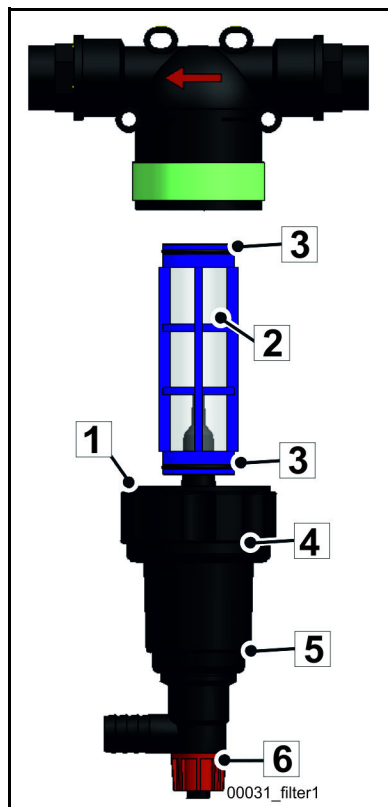

Fig. 436 Suction filter
- Loosen the housing (5) (**Fig. 436**) by hand.
- Remove the screen (2) (**Fig. 436**) from the housing of the suction filter.
- Check and replace the O-rings (1+3) (**Fig. 436**), if necessary.
Caption for suction filter (Fig. 436)